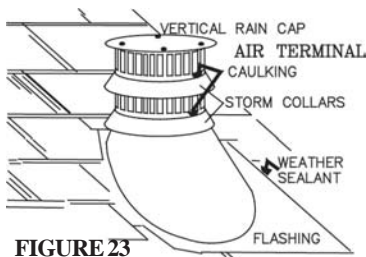

FIGURE 23
6. Apply a heavy bead of weatherproof caulking 2 inches above the flashing. Slide the storm collar around the air terminal and down to the caulking. Tighten to ensure that a weather-tight seal between the air terminal and the collar is achieved. Attach the other storm collar centered between the air intake and the air exhaust slots onto the air terminal. Tighten securely. **FIGURE 23**. Attach the vertical rain cap.
6. Remove nails from the shingles, above and to the sides of the chimney. Place the flashing over the air terminal and slide it underneath the sides and upper edge of the shingles. Ensure that the air terminal is properly centered within the flashing, giving a 3/4" margin all around. Fasten to the roof. Do NOT nail through the lower portion of the flashing. Make weather-tight by sealing with caulking. Where possible, cover the sides and top edges of the flashing with roofing material. **FIGURE 23.**